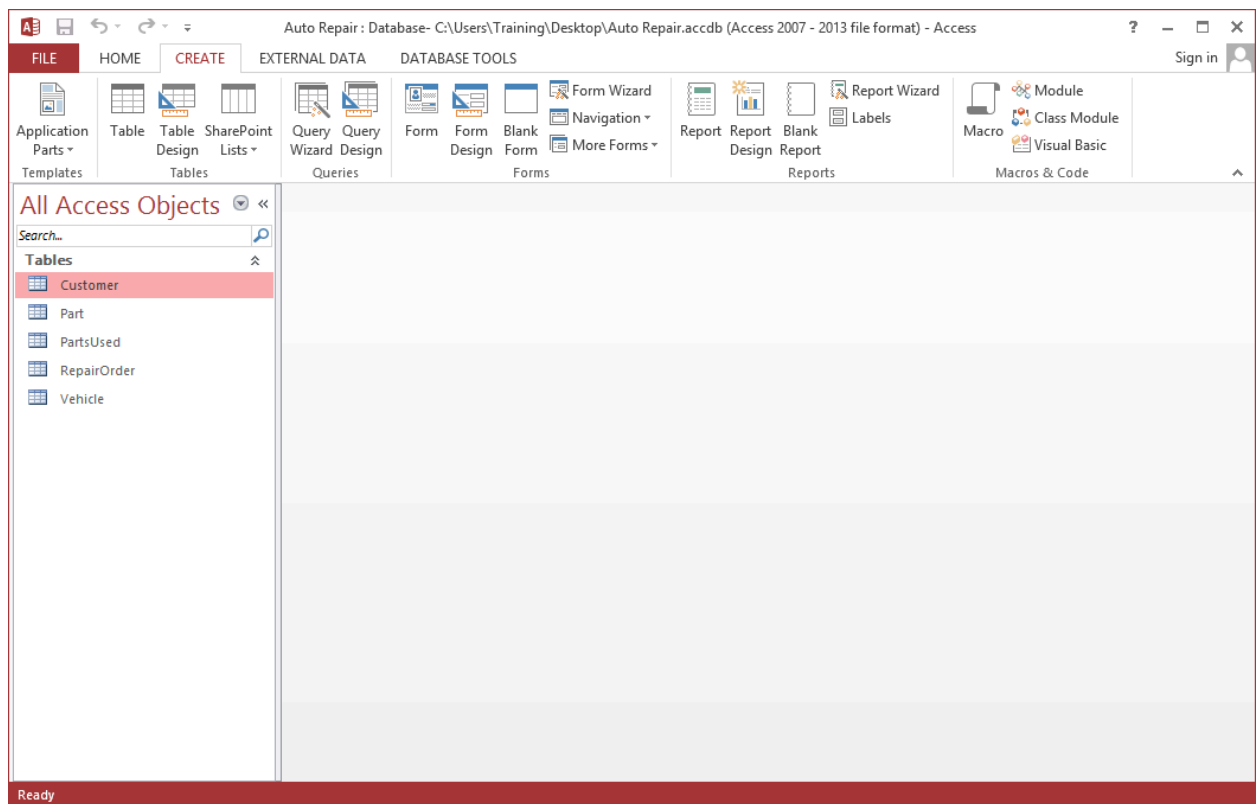
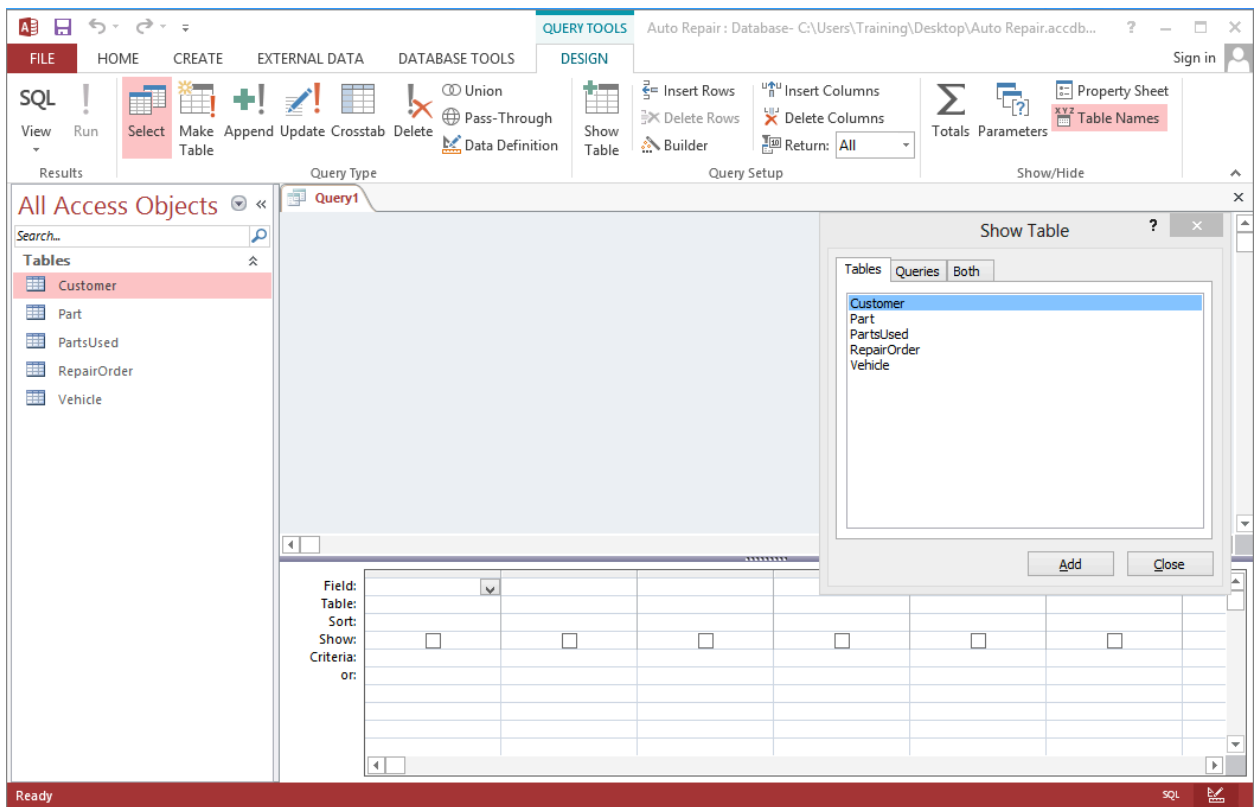
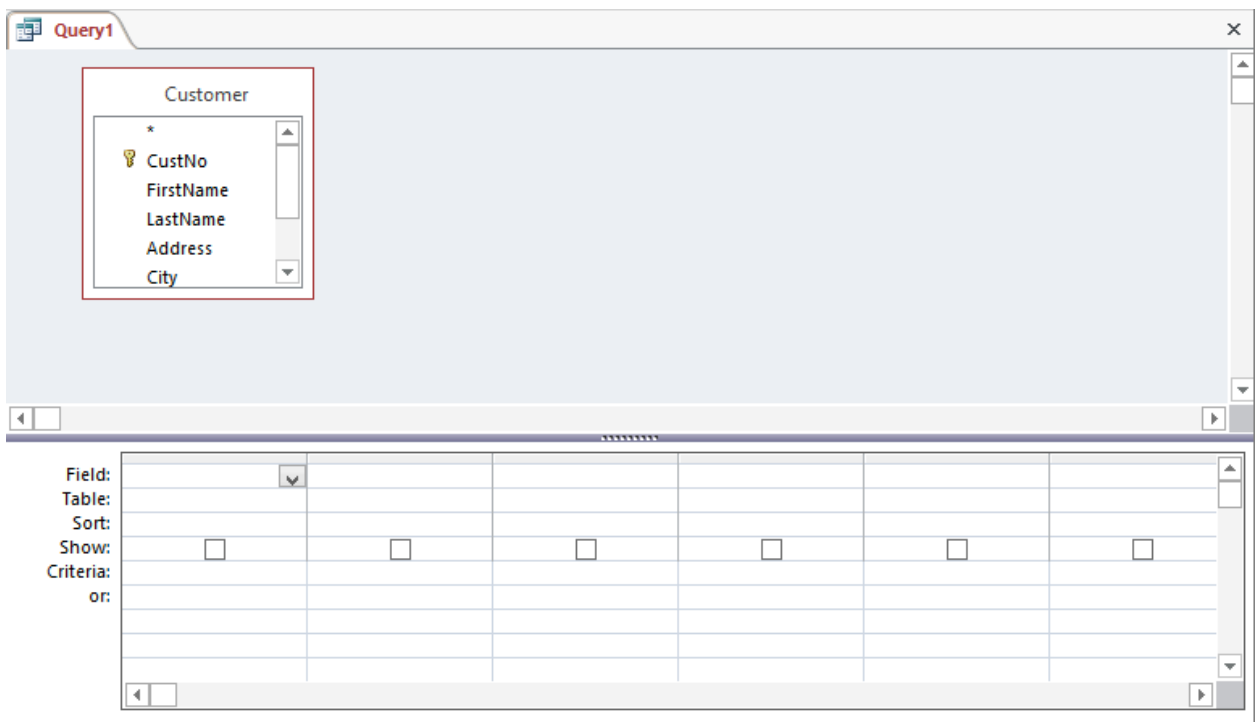

Figure 1: Navigation Pane with Empty View Pane
Figure 2: Query Design Pane and Show Table Window
Figure 3: Query Design Area with *Customer* Table
3. Open the Auto Repair Database: Start Access and open the auto repair database (AutoRepair.accdb) that you created in Chapter 2. The navigation pane should show the tables that you created in Chapter 2 (Figure 1). Choose **Create** → **Query Design** in the Queries group to open Query Design in the view pane (Figure 2).
4. Select a Table/Query: Query Design appears in the view pane with the Show Table window on top of it (Figure 2). You must select a table or existing query to include in the new query. Select the *Customer* table, click the **Add** button, and then click the **Close** button. Figure 3 shows the Query Design pane containing the *Customer* table.